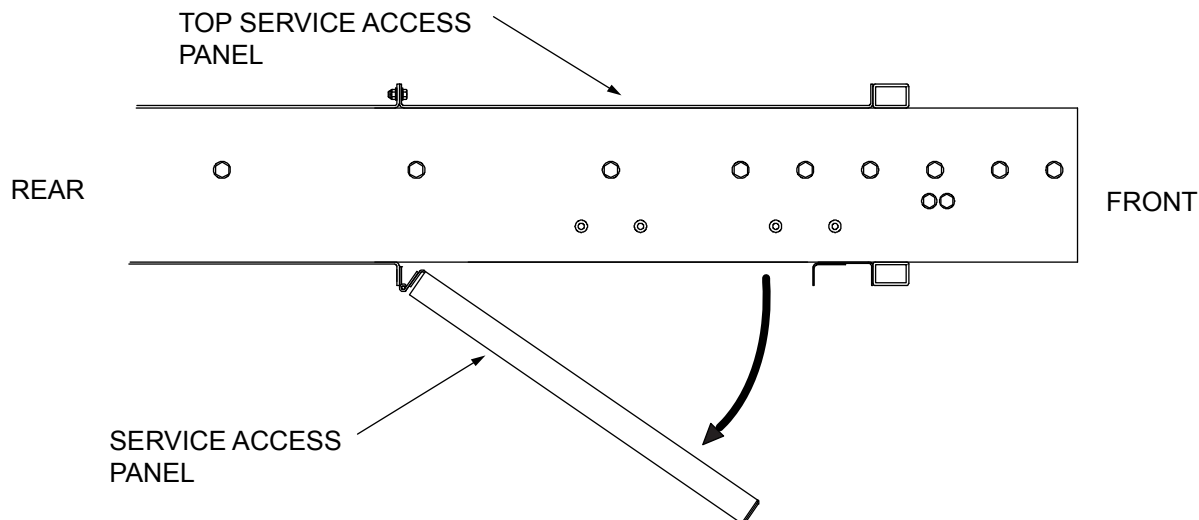

FIGURE 4-1: SERVICE ACCESS PANEL - OPEN
3. Refer to **Figure 4-1**. The service access panel pivots on a hinge along its rear edge. Remove the two retaining screws and lock-nuts at front edge of panel, and lower panel as shown.